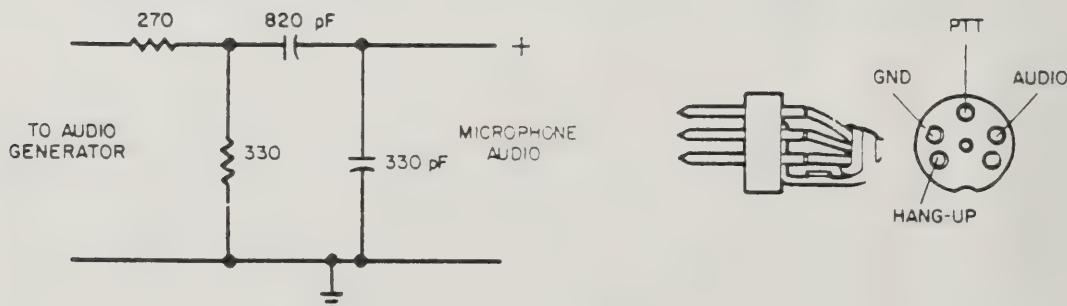

FIGURE 3 - MICROPHONE MATCHING NETWORK AND MICROPHONE PLUG DIAGRAM (WIRED ENDS TOWARD VIEWER)
6. Microphone Matching Network (Figure 3)